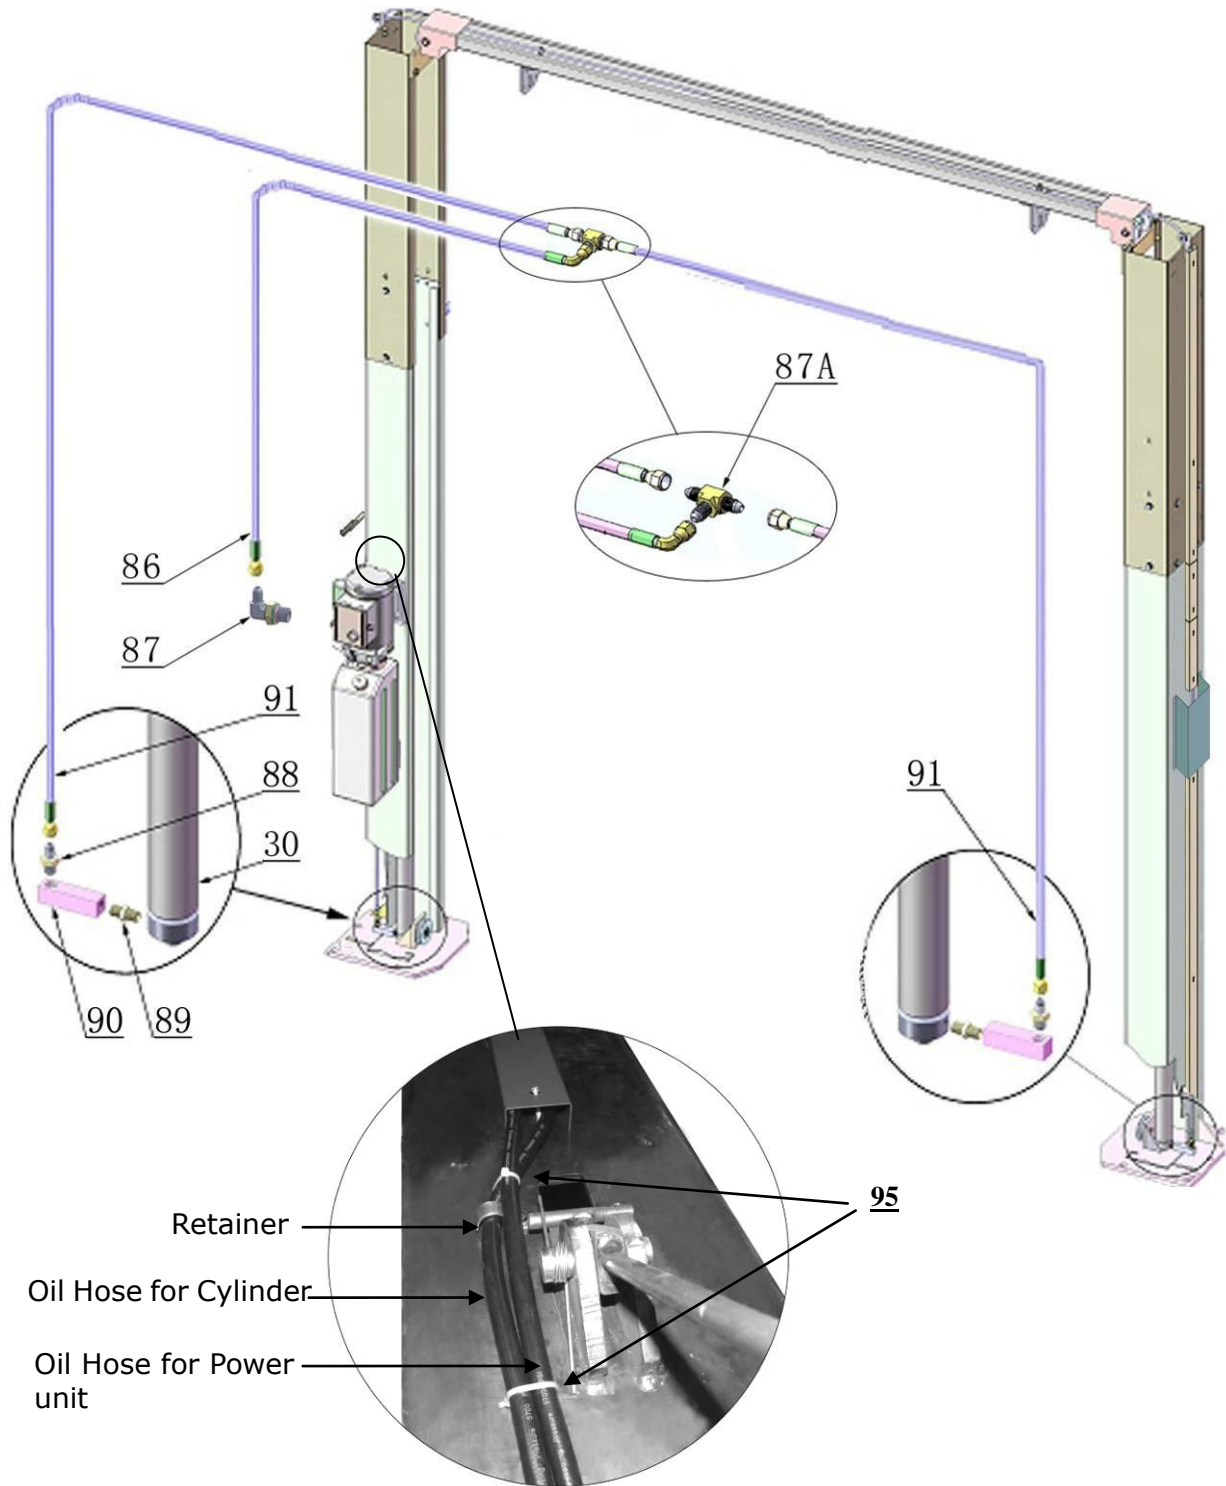

Fig. 26
2.1. Cable pass through from the bottom of the carriages and be pulled out from the open of carriages, then screw the two cable nuts (See Fig. 26).
L. Install hydraulic power unit and oil hose assy. (See Fig. 26).